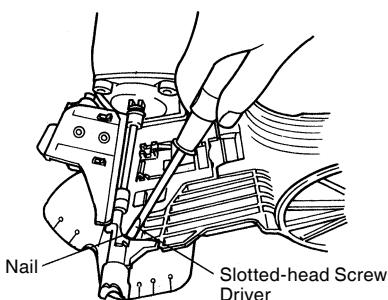

Fig. 19
- (2) Remove the jammed nail with slotted-head screwdriver. (Fig. 19)